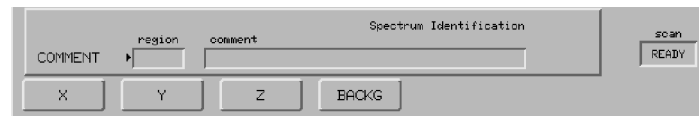

Figure 3-28 The Initial Command Line and Soft Keys for comment
*The command line and soft keys shown in Figure 3-28 appear. The soft key cursor is at the **region** field, and there is no default entry.*